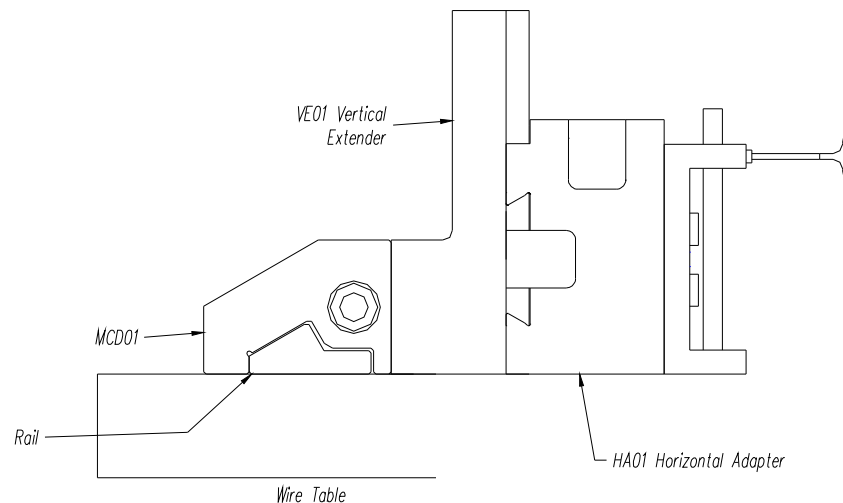

Figure 2
STEP 5. Load the work pieces into the MRC01 multi round clamp and secure by tightening the M5 screws with a 3mm hex wrench as shown in Fig. 2.